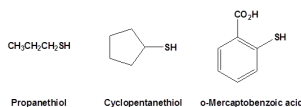

Figure 23.7a. Thiol structures of propanethiol, cyclopentanethiol and o-mercaptobenzoic acid (credit: *Organic Chemistry (Wade)*, CC BY-NC-SA 4.0).
Thiols (also called mercaptans), which are sulfur analogs of alcohols, have the general formula RSH. Methanethiol (also called methyl mercaptan), has the formula CH_3SH . Ethanethiol (ethyl mercaptan) is the most common odourant for liquid propane (LP) gas. Some other thiols are shown in Figure 23.7a. Because of the lack of the ability to hydrogen bond, thiols have lower boiling points than the corresponding alcohols. For example, ethanethiol is a gas at room temperature.